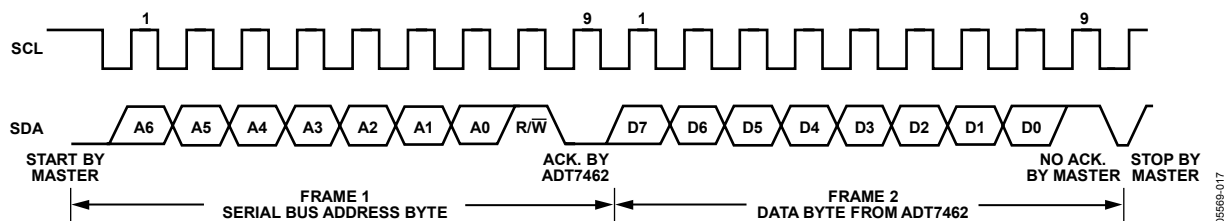

Figure 27. Reading Data from a Previously Selected Register
A read operation is then performed, consisting of the serial bus address and the R/W bit set to 1, followed by the data byte read from the data register (see Figure 27).
- If the address pointer register is known to be already at the desired address, data can be read from the corresponding data register without first writing to the address pointer register (see Figure 27).